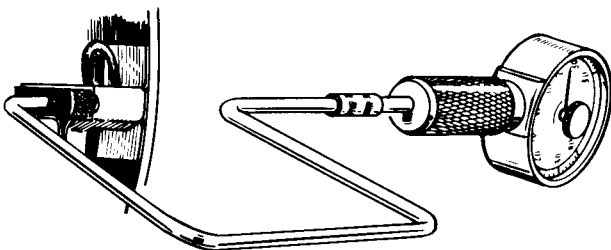

FIGURE 54. CHECKING BRUSH SPRING TENSION
**Brush Springs:** The spring tension should be taken using a push-type spring scale until the top of a new brush protrudes 1/16 inch from the brush holder. Spring tension should be 36 to 48 ounces. See Figure 54.